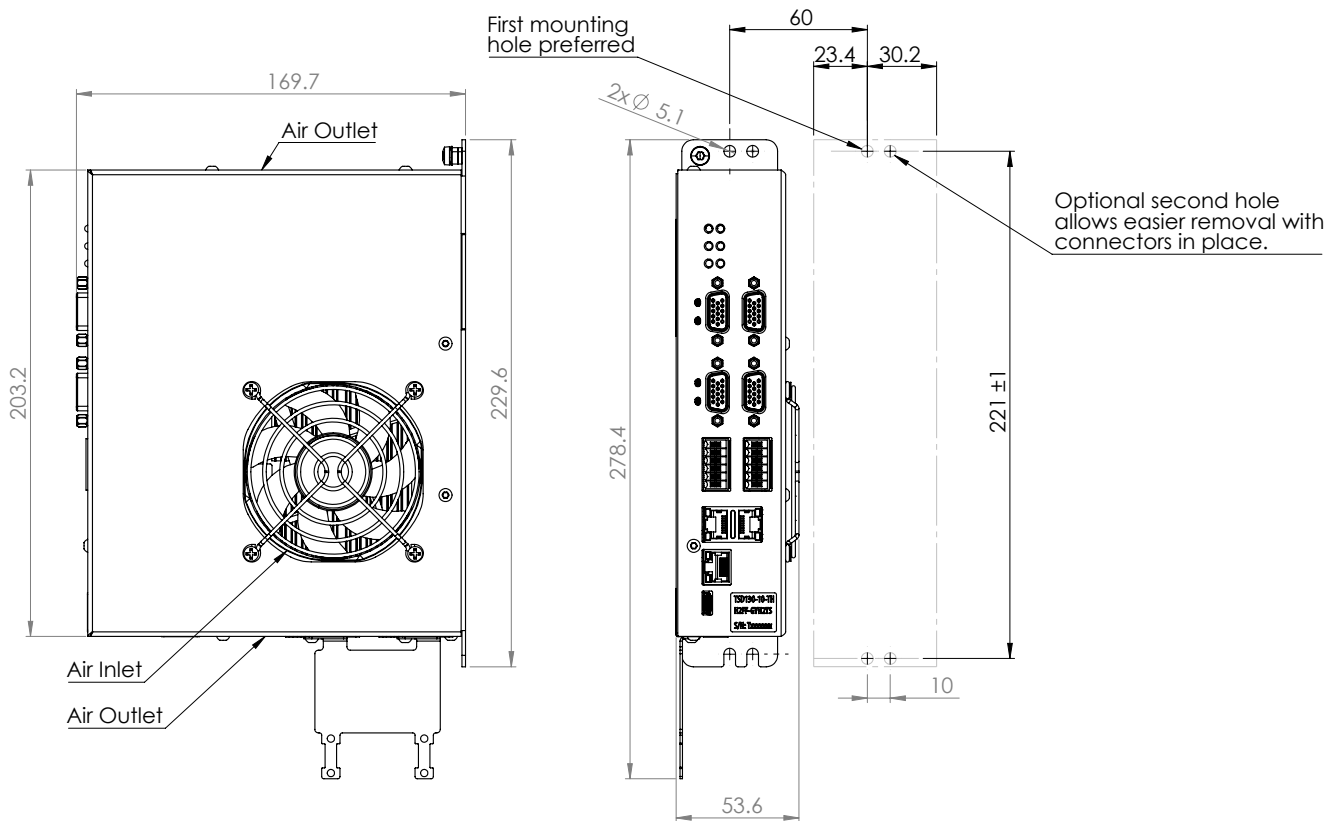

Figure 2: Mechanical Drawing
- Mount the servo drive preferably in vertical position as depicted in Figure 2 and 3 (horizontal position is allowed too).